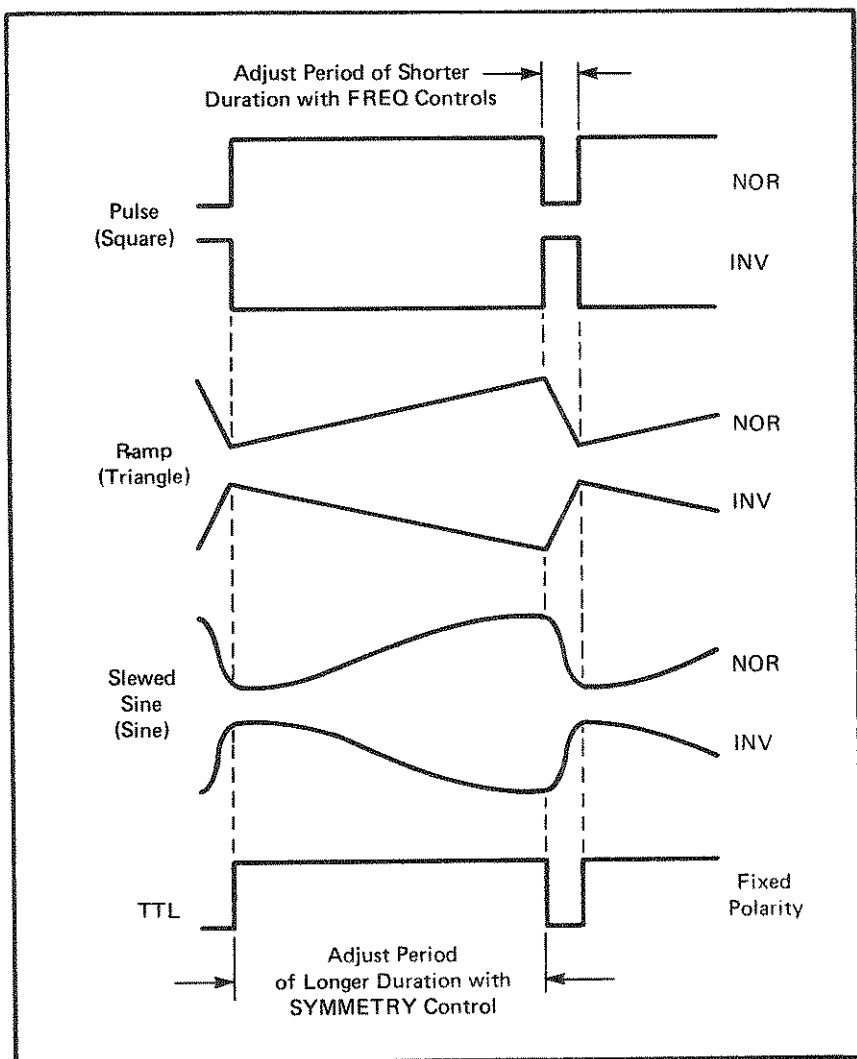

Fig. 5. Pulse, ramp, and slewed sine wave generation.
In a symmetrical square wave, sine wave, or triangle wave, the positive and negative transitions are of equal time duration, or 1:1 ratio. This is the condition when the SYMMETRY control is set to the CAL position. When the SYMMETRY control is rotated, the positive transition can be stretched into rectangular waves or pulses, triangle waves can be stretched into ramp or sawtooth waves, and sine waves can be stretched into a distorted waveshape called a slewed sine wave. An inverter allows either polarity output to be selected. Fig. 5 illustrates the types of waveforms possible and includes a summary of control settings used to obtain the desired waveform.
3. Select the desired polarity with the NOR/INV switch. See Fig. 5 for reference.